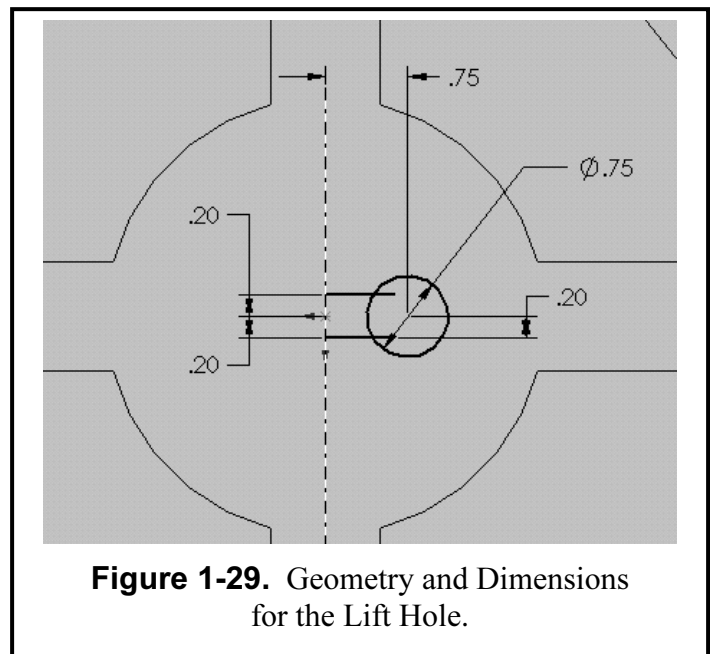

Figure 1-29. Geometry and Dimensions for the Lift Hole.
Now create the lift hole in the middle of the plate. Click the cursor on the top center surface of the cover plate (it should turn *green*). Also, select a **Top** view orientation. You might also need to **Zoom** in to see the center portion better. Click the **Sketch** icon to get into the sketching mode. Since the lift hole is symmetric about the origin, you can use a mirror function. So start by drawing a vertical **Centerline** (CL) through the origin. Draw a small **Circle** to the right side of the centerline. Then draw two parallel **Lines** that start at the centerline and go through part of the circle, as indicated in **Figure 1-29**. Now apply the following inch **Dimensions** to the sketch geometry.